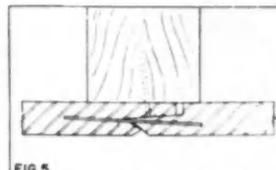

FIG 5
5. Firmly press second unit into position, engaging the interlocking joint and firmly anchoring Lok-Pins into both units (Fig. 5).